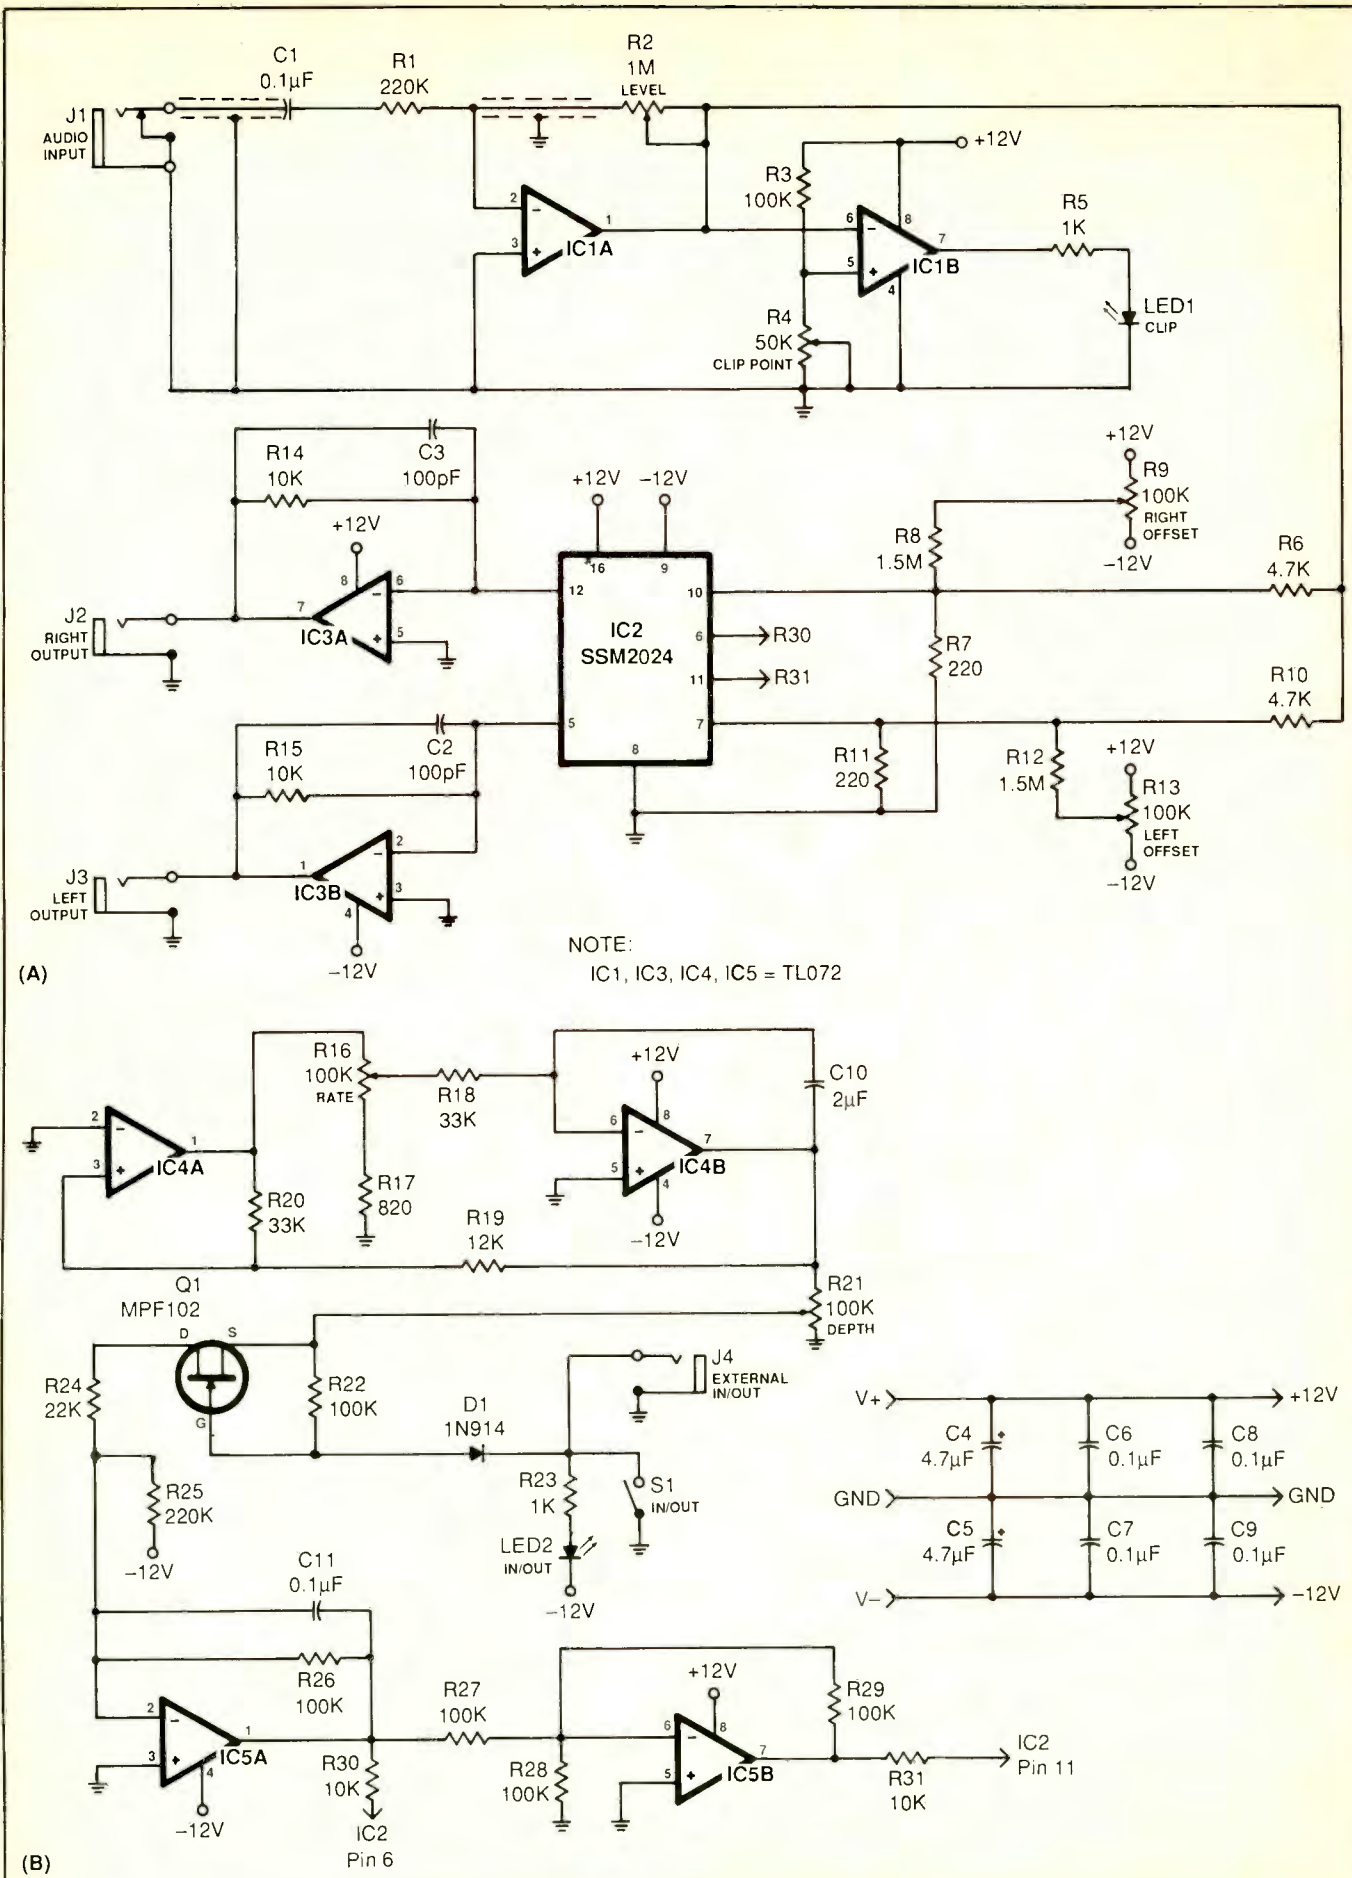

Fig. 2. Schematic diagram of audio (A) and control (B) sections.
Figure 2, shown in two parts, is the complete schematic diagram (sans power supply) of the Autopanner's circuitry. The portion shown in Fig. 2(A) is an input buffer and preamplifier built around dual low-noise operational amplifier *IC1*. The buffer has a reasonably high input impedance to minimize loading down signal sources like electric-guitar pickups, which can result in a loss in high frequencies and overall volume when the signal is reproduced through the stereo system's speakers.
For best results, use perforated board that has holes on 0.1-inch centers on which to mount the components that make up the project's circuitry. Use sockets for the ICs and appropriate soldering or Wire Wrap hardware for component-lead connections. Keep all component leads as short as possible, and make sure to include bypass capacitors *C6* through *C9* in Fig. 2. (As you wire the board, install only the IC sockets—not the ICs themselves—and save IC installation until after initial voltage checks have been performed.) With a little care in laying out the
ing against Figs. 2 and 3. Also, check particularly for proper electrolytic capacitor orientations.